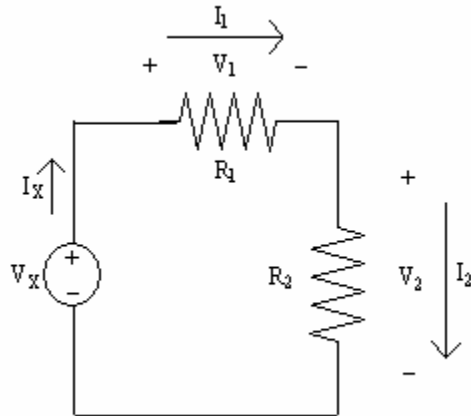

Figure 16
- a. Build the circuit shown in figure 16 on your breadboard.